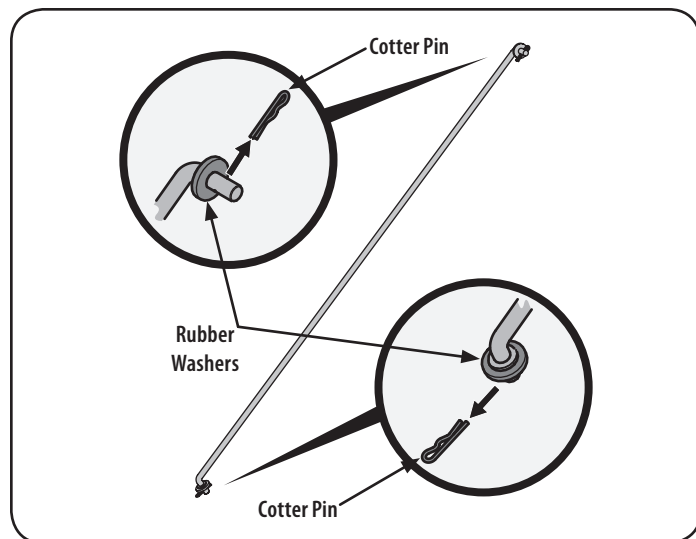

Figure 4
3. Insert the shorter, angled end of the control rod through the indicator bracket on the shift cover and secure it with the previously removed hairpin clip. See Figure 4.